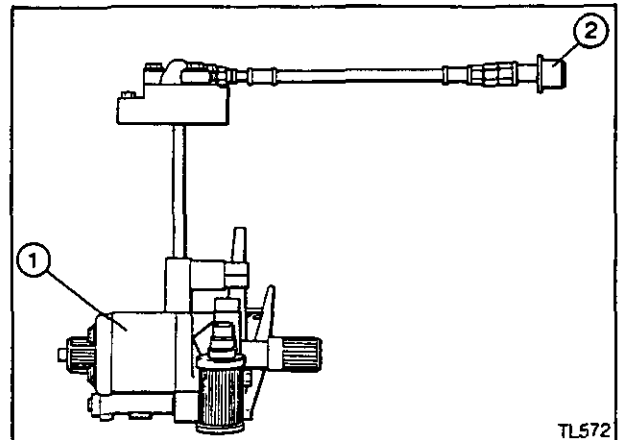

Figure 13
1. Figure 13. Oil direct from the linkage pump (1) via a trailer tipping pipe (2) – single acting cylinders only. The lower links will raise or fall with the operation of the trailer unless restrained.